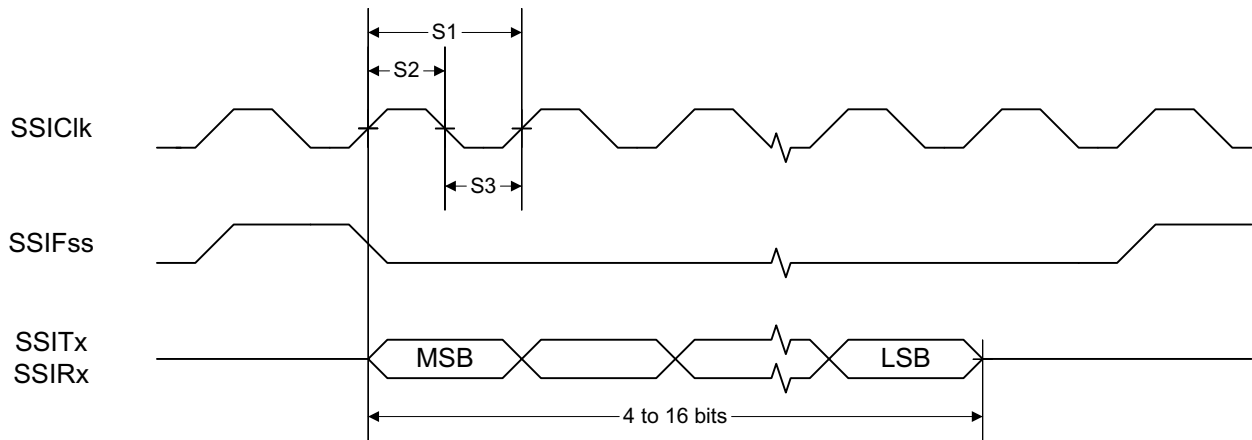

Figure 8-1. SSI Timing for TI Frame Format (FRF = 01), Single Transfer Timing Measurement
- (1) Refer to SSI timing diagrams Figure 8-1, Figure 8-2, and Figure 8-3
(2) When using the TI-provided Power driver, the SSI system clock is always 48 MHz.